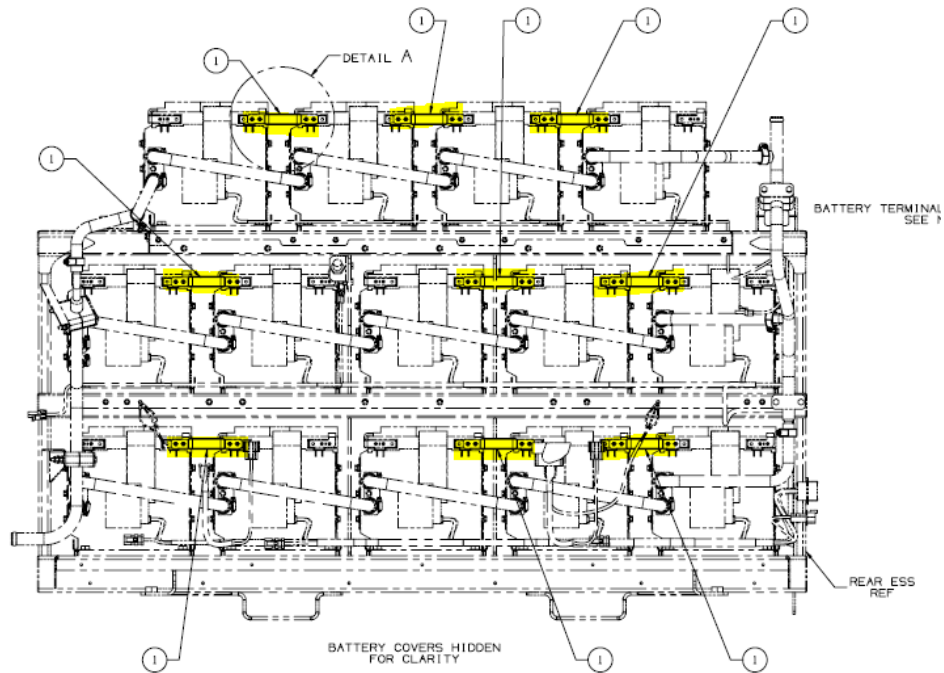

Figure 11: Rear ESS Enclosure Battery Busbar's
- 3.4 Verify all busbar to battery connections highlighted in figure 11 below are torqued to 80 INCH-LBS.